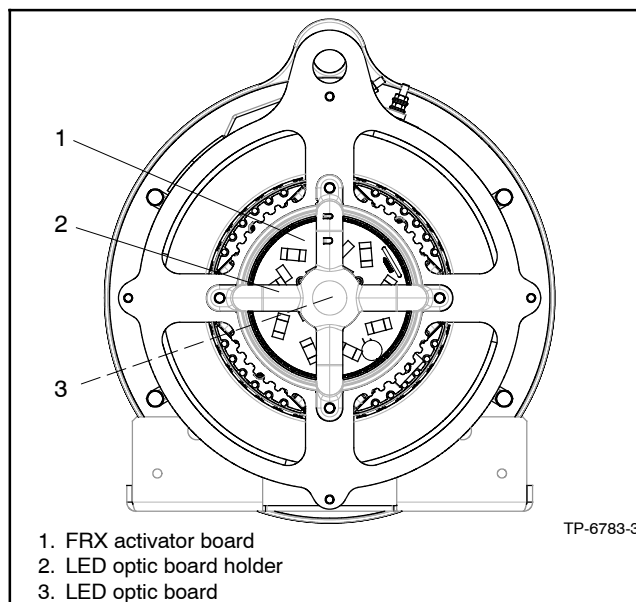

Figure 7-3 FRX Activator Board with LED Optic Board Installed.
1. Remove the junction box panels from the generator end of unit and remove the LED optic board holder/LED optic board. See Figure 7-3.